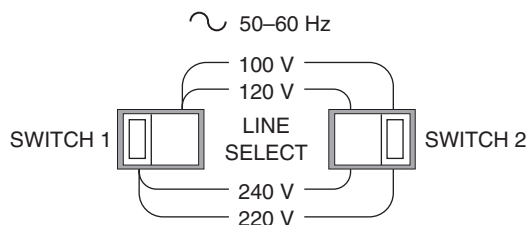

Figure 5 – Rear Panel Power Supply Voltage Switches in Positions with Switch 1 set to Left and Switch 2 set to Right
- i. Configure the Model 2835-C's power supply voltage selection switches to match the nominal local voltage. See Figure 5 and Table 21.